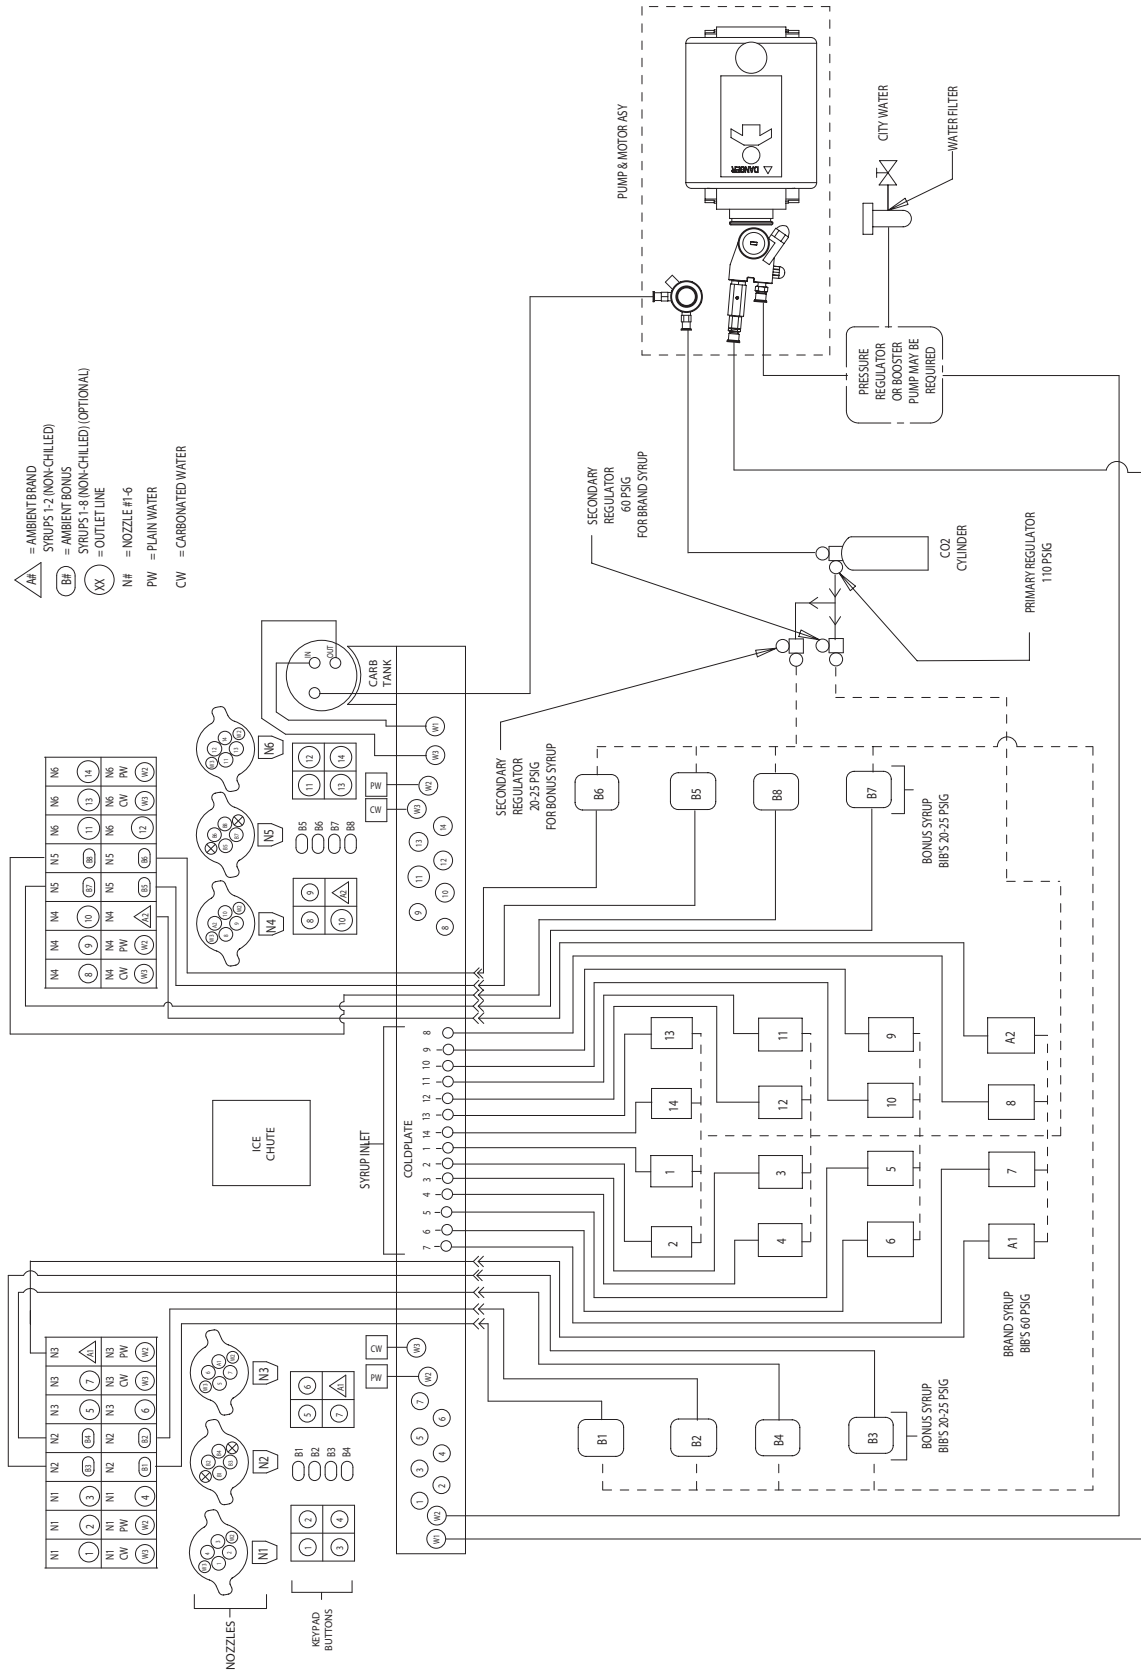

FIGURE 8. Flow Diagram
5. Connect the beverage system product tubes as indicated in applicable Flow Diagram FIGURE 8. This work should be done by a qualified service person.
NOTE: See applicable Flow Diagram (see FIGURE 8) or Decal on the lower front of the unit for the location of syrup and water connections.